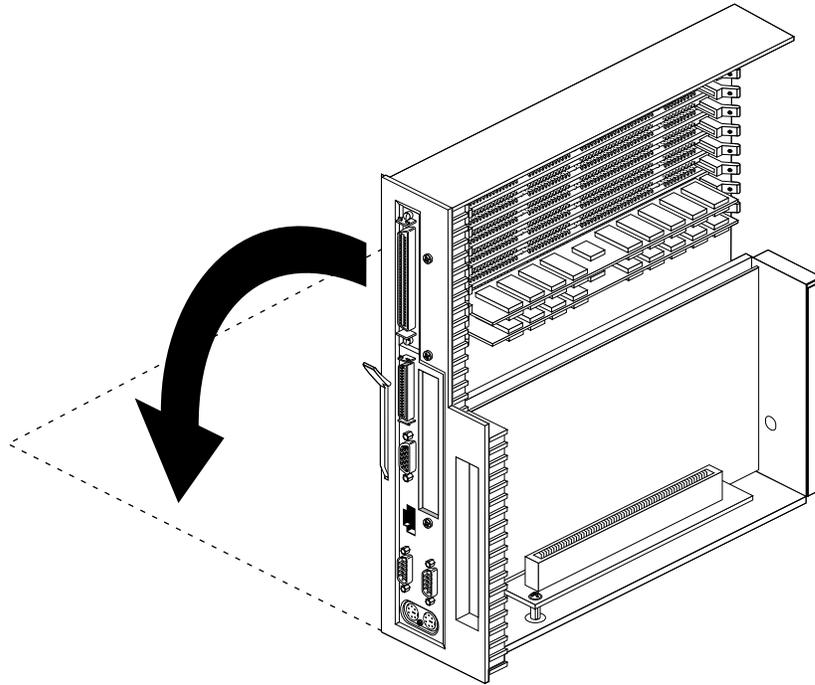

Figure 1-5 Laying the System Module Flat
1. Lay the system module on a clean, flat surface, such as your desktop (Figure 1-5).